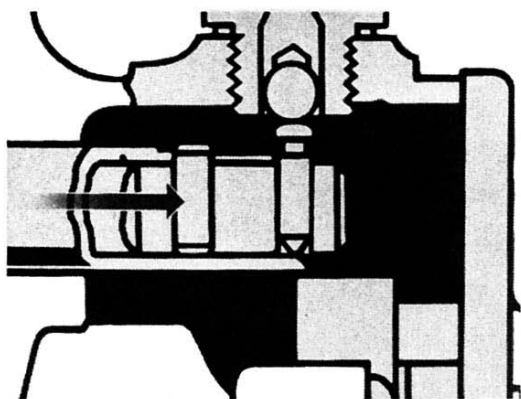

FIG. 7
**OPERATION DURING DOWNSHIFT:** Figure 7 shows the position of the mechanism at the start of the downshift. Oil pressure has just been relieved by the action of the solenoid which has pushed the ball valve off its seat and allowed the oil to dump. Piston and sleeve is moving backward, under pressure of the piston return spring.